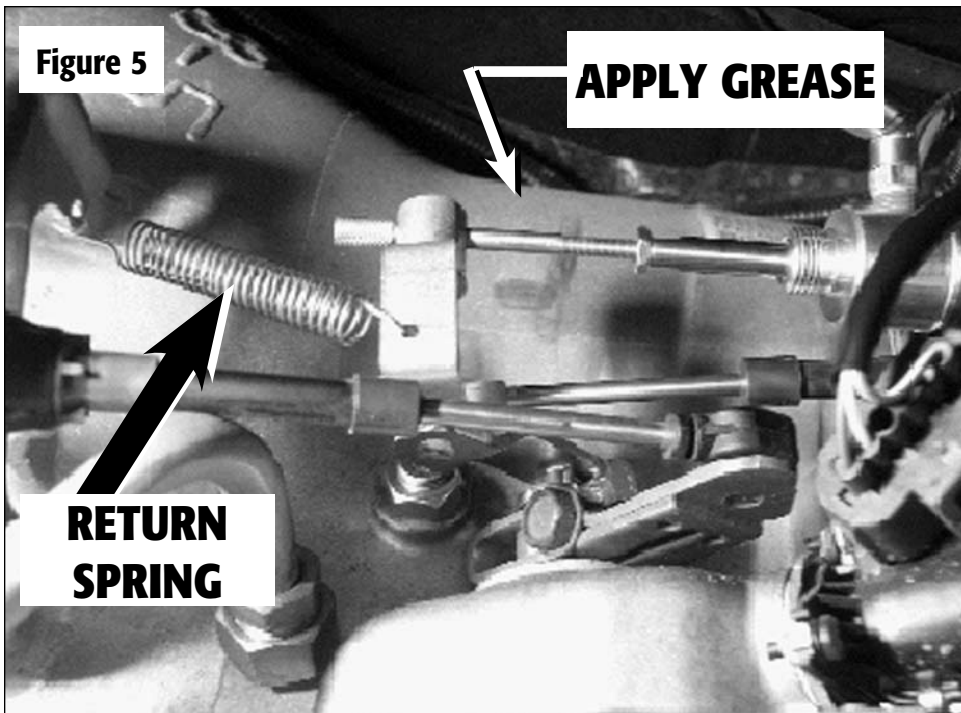

Figure 5
8. Slide the actuator control lever over the throttle valve shaft and tighten the bolt. Re-attach the return spring to the transmission case actuator control bracket as shown in **Figure 5**. Re-attach the kick down cable removed in **Step 4**. Actuate the lever by hand several times and ensure there is no binding or the system will fail to function properly. There should be a small gap between the knurling and the slider when the actuator rod is fully extended.